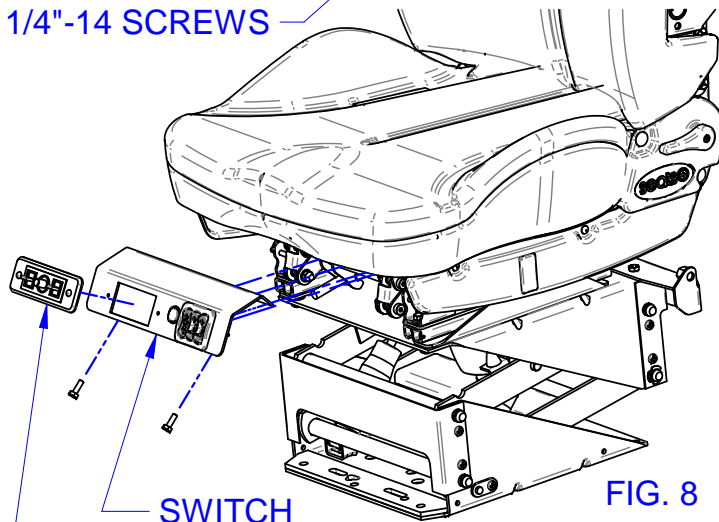

FIG. 8
12. SECURELY REATTACH FRONT SWITCH PANEL TO UNDERNEATH CUSHION. (FIG. 8)
13. REATTACH 6-WAY CONTROL SWITCH TO FRONT SWITCH PANEL. IF REQUIRED REATTACH RESPECTIVE AIR LINES TO PADDLE VALVE. (FIG.8)